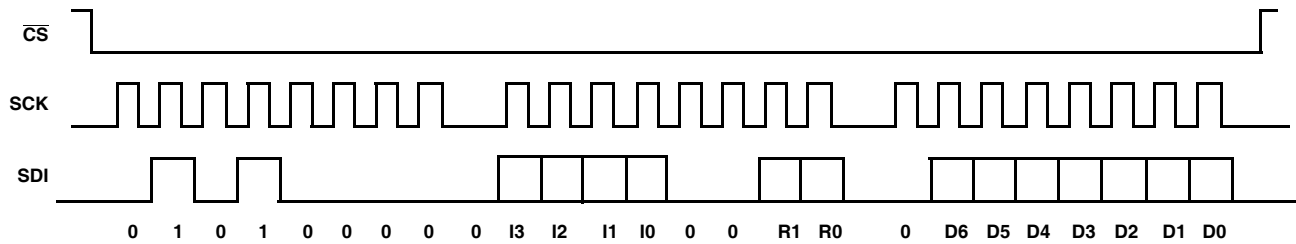

FIGURE 16. THREE BYTE WRITE SEQUENCE
by Data Byte is sent to SDI pin. The host terminates the write operation by pulling the  $\overline{CS}$  pin from LOW to HIGH. For a write to address 0 (WR), the byte at address 2 (ACR<7>) determines if the Data Byte is to be written to volatile or both volatile and non-volatile registers. Refer to "Memory Description" on page 10 and Figure 16.